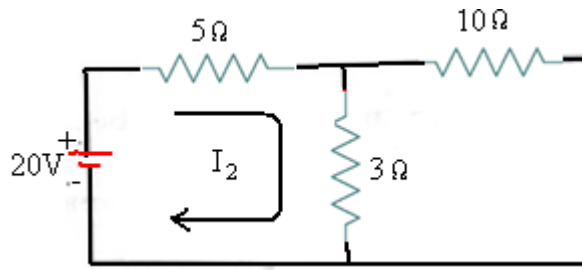

Fig.1
**Solution:** Applying the superposition theorem, the current  $I_2$  in the resistance of  $3\Omega$  due to the voltage source of 20V alone, with current source of 5A open circuited [ as shown in the figure.1 below ] is given by :